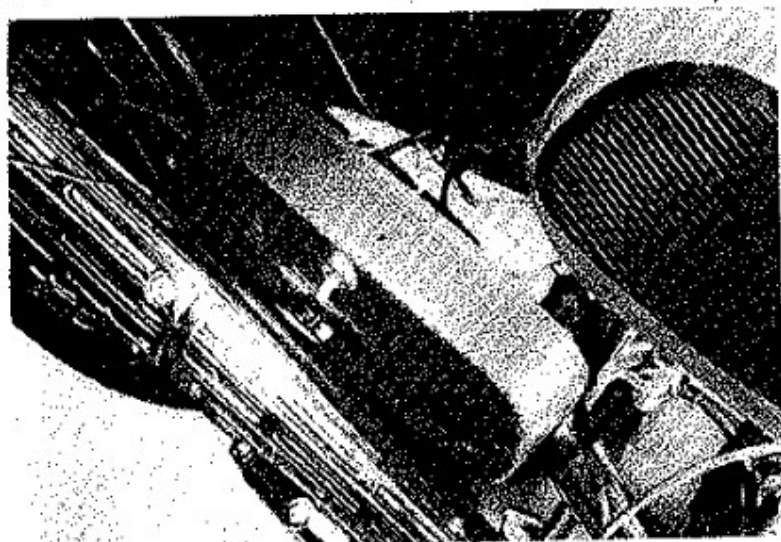

Fig. 37
2. Take out service kit. (Fig. 37)